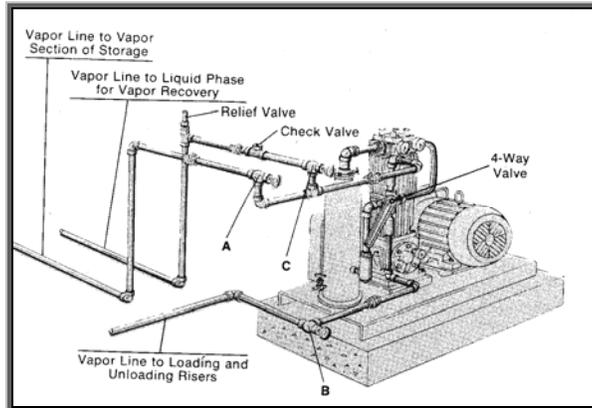

Figure 5.1.5b
2. Check to be sure the four-way valve and the plant valves have been set so that the compressor will remove vapor from the plant storage tank and discharge it into the railcar. Figures 5.1.5b and 5.1.5c illustrate the compressor 4-way valve and piping positions for unloading in a *typical* bulk plant. Plant piping might vary. Verify the proper valve positions and operating procedures for each bulk plant.
- Reverse the four-way valve and adjust the plant piping manifold so the compressor will withdraw vapor from the railcar and force it through the liquid space of the plant storage tank (refer to Figures 5.1.5b and 5.1.5c). Restart the compressor and check the pressure gauges for excessively high discharge or excessively low intake pressure. If either occurs, shut down the compressor and correct the problem before continuing.